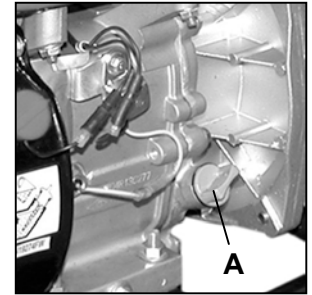

Figure 4
2. Remove the oil drain plug. (A, Figure 4)